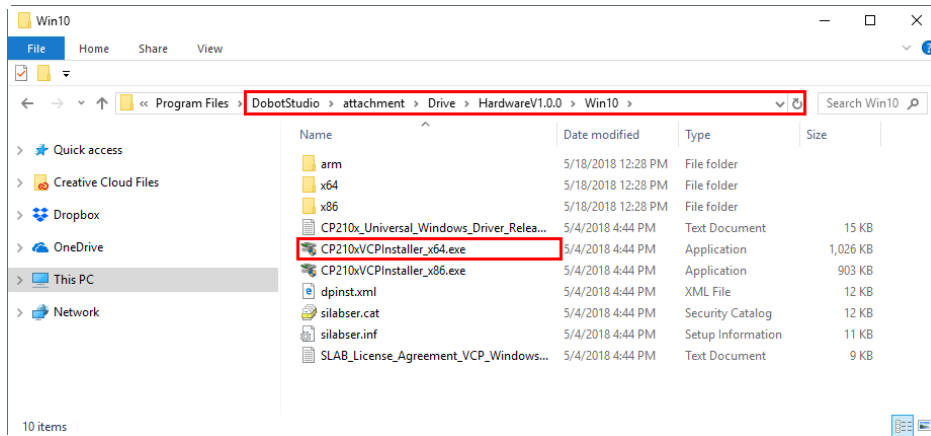

Figure 2.12 Install the 64-bit driver on a 64-bit Windows 10
- To reinstall the Dobot Magician driver after uninstalling it, install the driver corresponding to the Windows version in the directory **Installation Directory\DobotStudio\attachment\Drive\HardwareV1.0.0**. For example, install the 64-bit driver on a 64-bit Windows 10, as shown in Figure 2.12.